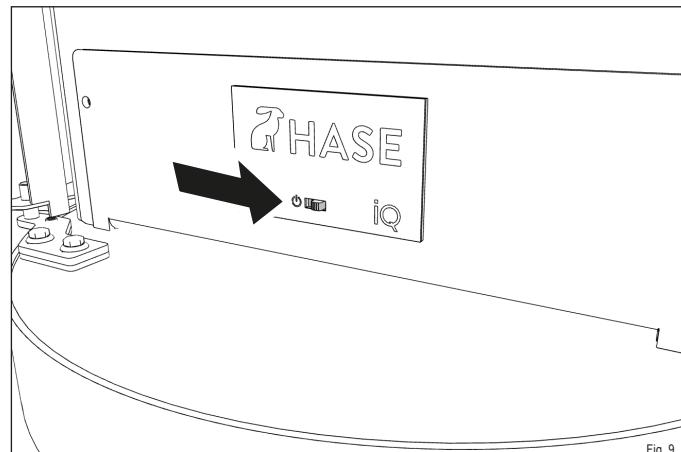

Fig. 9
- ▶ Set the switch on the control panel to "On" (Fig. 9). When the power light lights up blue, the controller is ready.